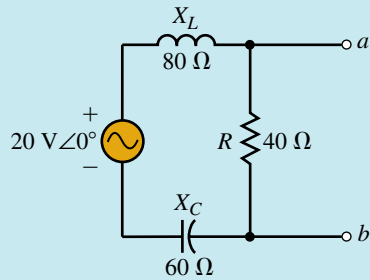

FIGURE 20–16
Step 4: The Thévenin voltage is found by using the voltage divider rule as shown in the circuit of Figure 20–16.